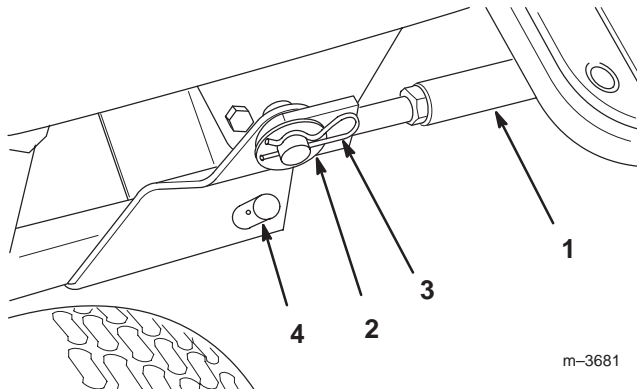
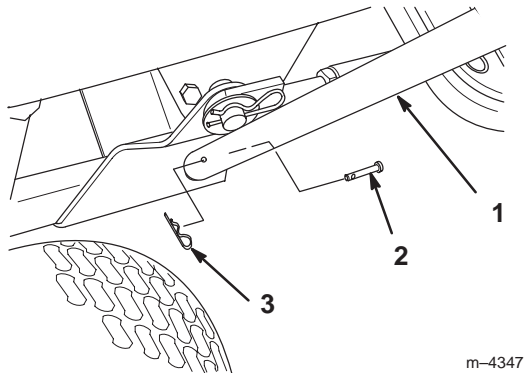

Figure 22
Figure 23
14. Secure the other ends of the support braces to the frame rods protruding from the mid Attach-A-Matic™ hitch with a 15/16" (24 mm) washer and a large hairpin cotter (Fig. 22). You may need to turn the adjuster of each brace before the holes in the adjuster align with the frame rod.
15. Slide the crank support onto the mounting post on the left-hand side of the tractor (Fig. 22). Secure it in position with a locking pin and small hairpin cotter (Fig. 23).